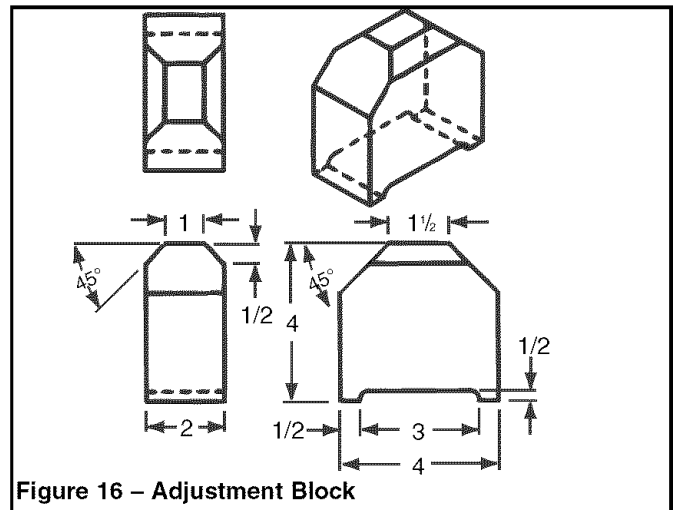
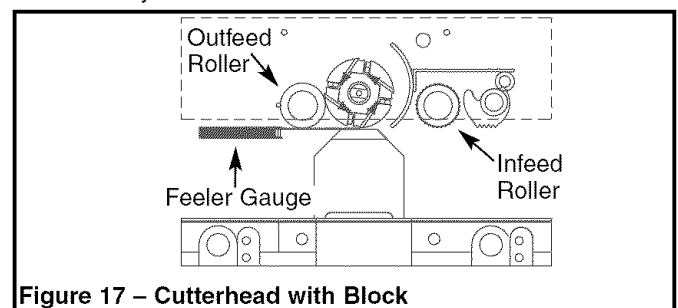

Figure 16 – Adjustment Block
Figure 17 – Cutterhead with Block
Refer to Figure 16.
Some of the maintenance adjustments require the use of a handmade adjustment block (See Figure 16).
Refer to Figures 16, 17, 21 and 22, pages 11, 12, 20 and 22.
- Place adjustment block (Figure 16) under cutterhead at one end as shown in Figure 17. Place 0.020" feeler gauge between block and blade. Raise or lower table so that blade just contacts feeler gauge when blade is at lowest position. Put gearbox in neutral and rotate cutterhead slowly to determine lowest position of blade. Lock table in position by tightening lock knobs (Figure 22, Key Nos. 9 and 18). Do not unlock table position until both sides of outfeed roller have been adjusted.
Refer to Figures 16, 17, 18, 21 and 22, pages 13, 14, 20 and 22.
- Place adjustment block (See Figure 16) under cutterhead at one end as shown in Figure 17. Place 0.004" feeler gauge between block and blade. Raise or lower table so that blade just contacts feeler gauge when blade is at lowest position. Put gearbox in neutral and rotate cutterhead slowly to determine lowest position of blade. Lock table in position by tightening lock knobs (Figure 22, Key Nos. 9 and 18). Do not unlock table position until both sides of chipbreaker have been adjusted.
Refer to Figures 16, 19 and 22, pages 13, 14 and 22.
- Place adjustment block (See Figure 16) on table at outside edge of roller case and on infeed side of planer. Slide block to one corner of roller case. Raise or lower table until block just contacts roller case. Lock table in position by tightening lock knobs (Key Nos. 9 and 18). Do not unlock table position until all four corners of the roller case have been checked.